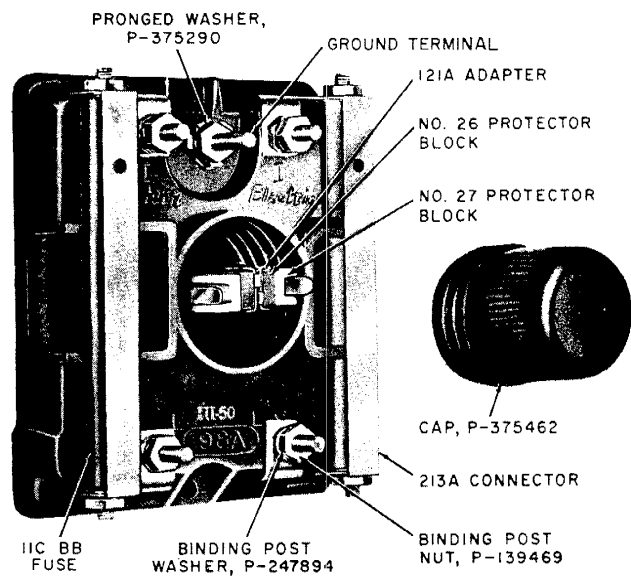

Fig. 5—98AA Protector
2.10 The 98AA Protector consists of a base of insulating material containing five binding posts, two 11CBB Fuses, two 213A Connectors inserted over the fuses with the pilot holes toward the station end of the protector, two 121A Adapters inserted in the bottom of the protector well under the carbon blocks, and two each No. 26 and 27 Protector Blocks (Fig. 5).